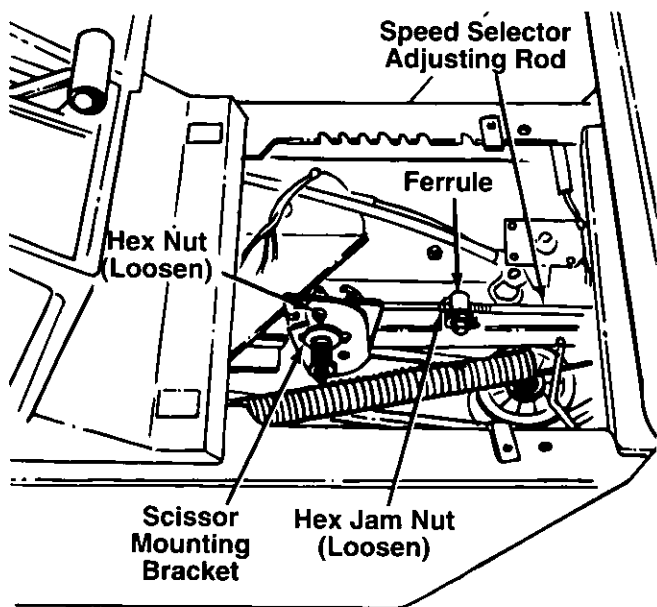

FIGURE 13.
- Loosen the hex jam nut on the speed selector adjusting rod. See figure 13.
4. Loosen the hex nut on the scissor mounting bracket. See figure 13.